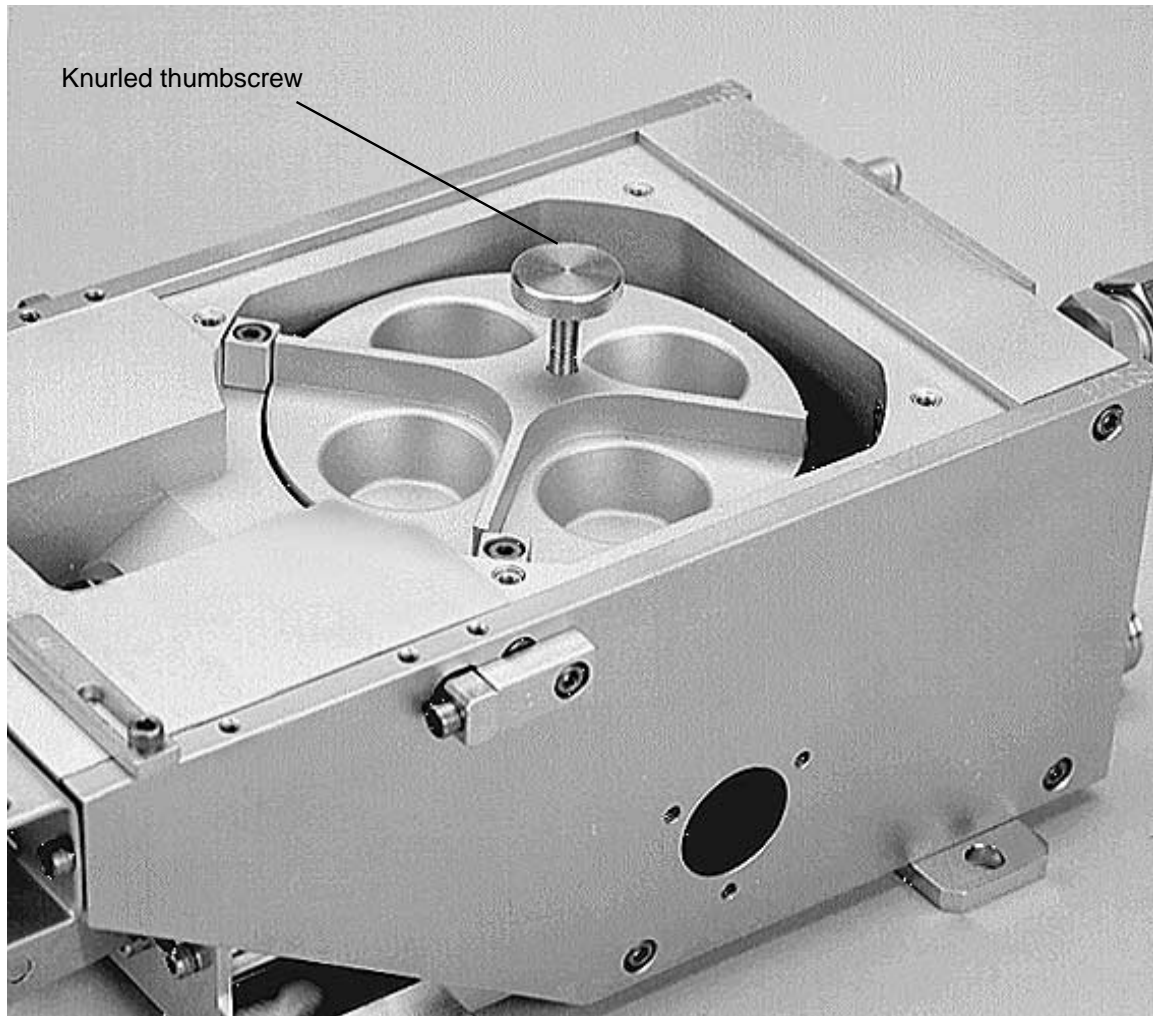

Figure 6-5. Source with crucible cover removed and knurled thumbscrew in place in top of crucible
Step 4: Screw the knurled thumbscrew into the tapped hole provided for it in the top of the crucible. Then rotate the crucible so that the off-center thumbscrew is toward the rear of the source (see Figure 6-5).